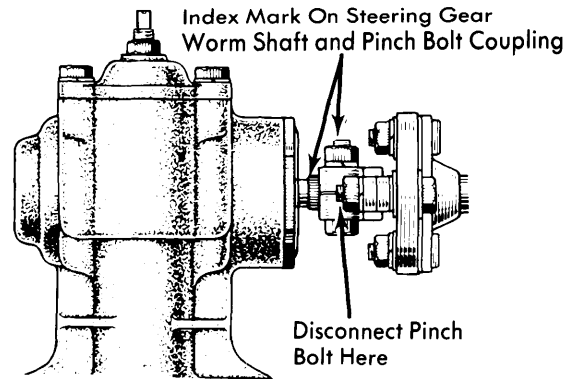

Fig. 1 Pinch Bolt Disconnection Point and Index Marking
**Removal** — 1) Loosen pinch bolt (Fig. 1) attaching coupling yoke to worm shaft. Index mark coupling yoke and worm shaft. Loosen steering wheel nut and using a puller, remove steering wheel. For additional information, See *Steering Wheel and Column Switches* in **STEERING** Section.